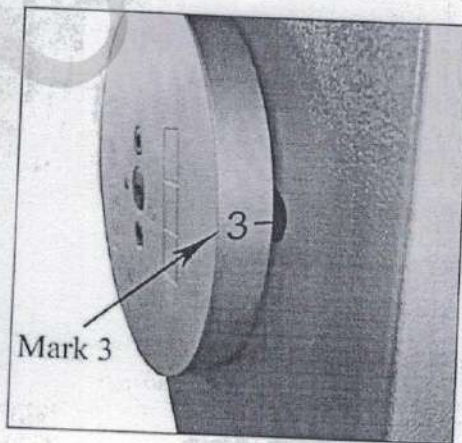

Fig.9
- After the crossed pattern required is done, stop machine when the marker '3' on pattern cam is located towards operator (as shown in Fig.9), then set the feeding shift at '3', square pattern will be set. The last square pattern can be done.